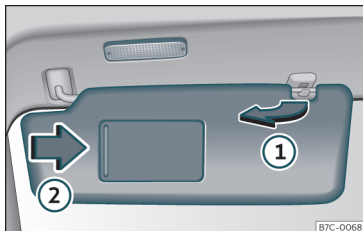

Fig. 122 Sun visor
- The sun visor can be pulled out of its mounting and turned towards the door >>> Fig. 122 ①.